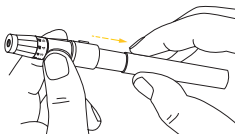

Figure 25
**STEP 6:** Cock the Lancing Device. Slide the ejection/cocking control back until it clicks. If it does not click, the Lancing Device may have been cocked when the lancet was inserted. See Figure 25.